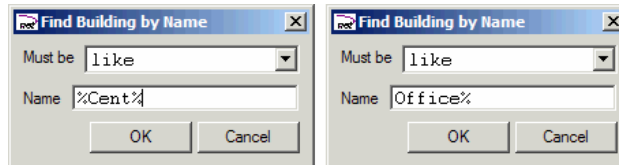

Figure 216 –Wildcard searches for all Buildings whose name includes **Cent** (left) and whose name begins with **Office** (right)
1. Run the menu command **FM ISP > Find > Find by Name > Building...** The panel shown in Figure 216, below will be displayed. This panel provides a number of search operators, such as **equals**, **like**, etc.
2. Fill in the values for each of the fields shown in Figure 216, below for each of the buildings and click the **OK** button.